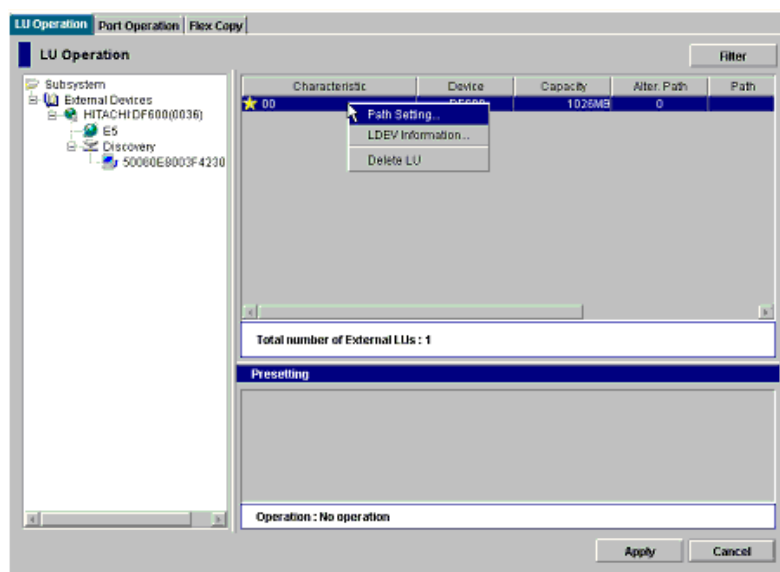

Figure 347: Defining the alternate path in the LU Operation tab
3. In the LU list, select the Flex Copy volume whose status you want to restore from **Blockade**, then right-click to select the **LDEV Information** command (see Figure 347 page 850).